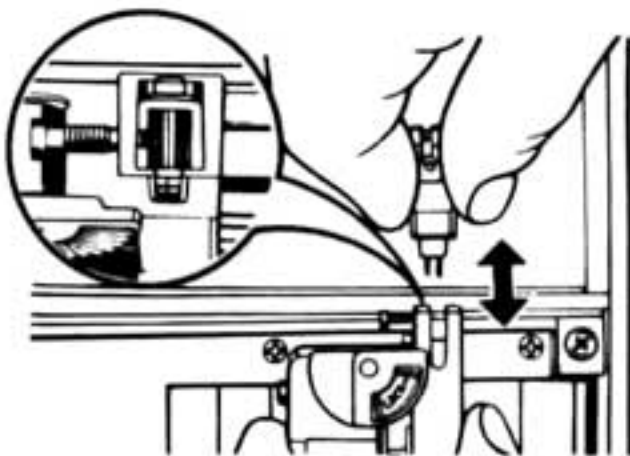

Fig. 5
6. Draw out the cartridge. (See Fig. 5.)